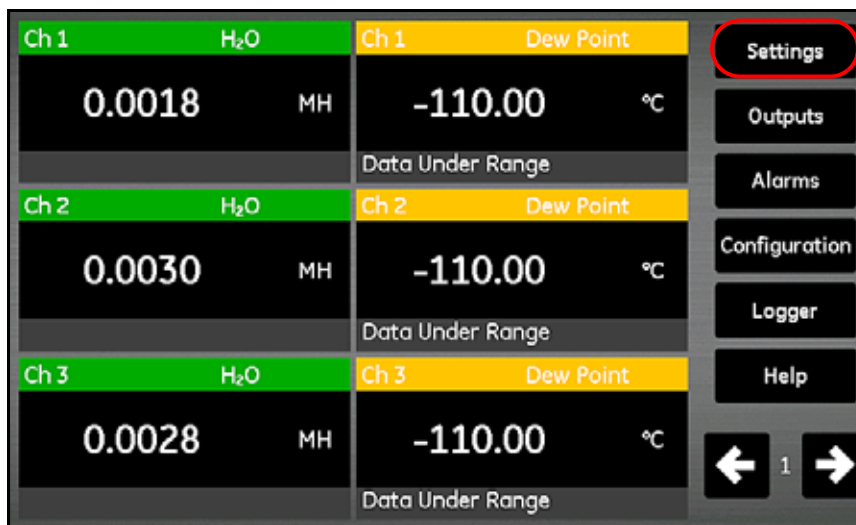

Figure 82: Settings Button on the Main Screen
3. From the main screen, tap the Settings button (see *Figure 82* below).